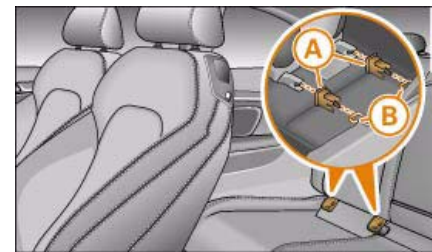

Fig. 191 The ISOFIX child safety seat is pushed into the protective sleeves.
- Fit the protective sleeves **(A)** onto the retainers **(B)** between the backrest and the seat cushion ⇒ *page 181*, fig. 191.
- Push the mountings on the child safety seat into the protective sleeves until they engage audibly (2x) ⇒ *page 181*, fig. 191.